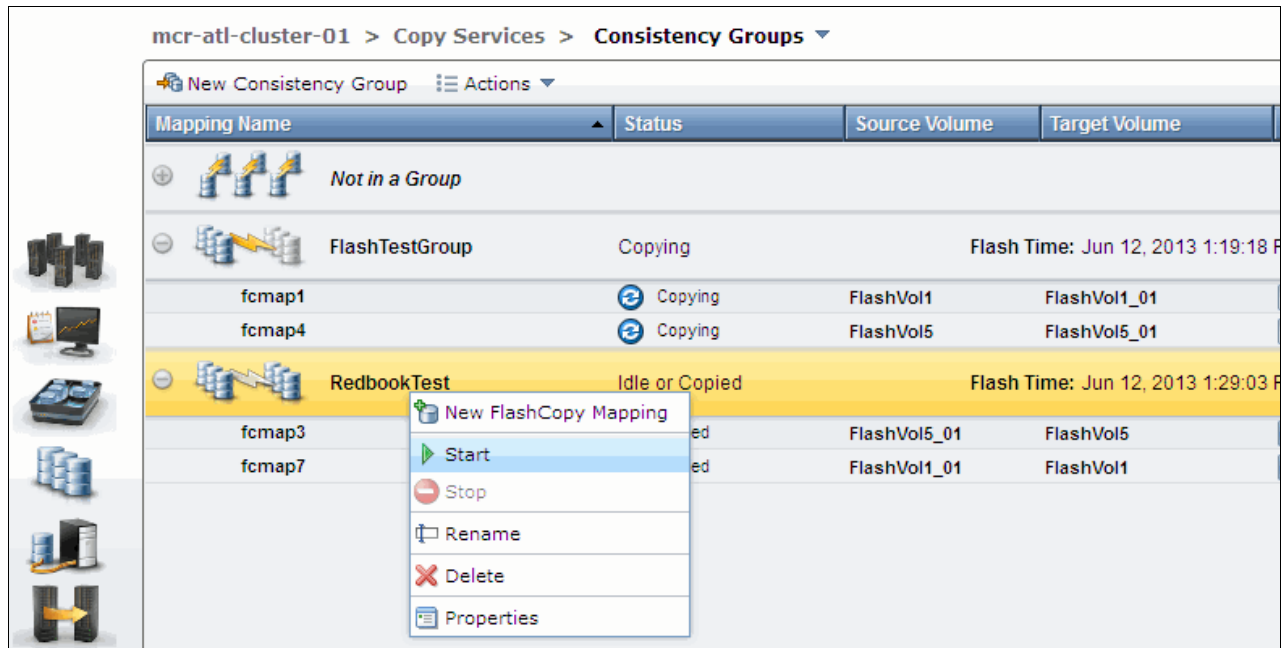

Figure 10-70 Starting Consistency group restore
- To restore the consistency group, highlight the reverse consistency group and click **Start**, as shown in Figure 10-70.